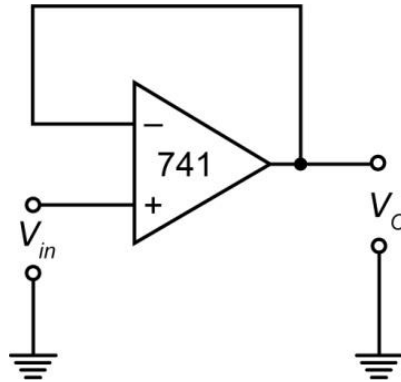

Fig. 14.27: Unity gain amplifier.
5. The circuit of the configuration described in the question is shown in Fig. 14.27.